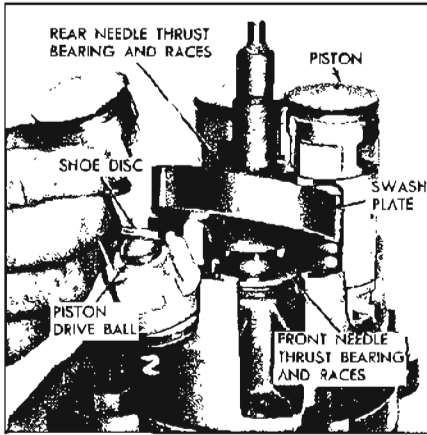

Figure 11-79—Disassembly of Cylinder Assembly
16. Carefully disassemble from cylinder assembly (see Figure 11-79) and lay in respective place of Parts Tray (J-9402) the following: number "1, 2 and 3" pistons, piston drive balls, and piston rings. To disassemble, rotate swash plate until piston is at highest point, raise swash plate approximately 1/2 inch and lift out piston and related parts one at a time. Discard shoe discs and rear needle thrust bearings and races.